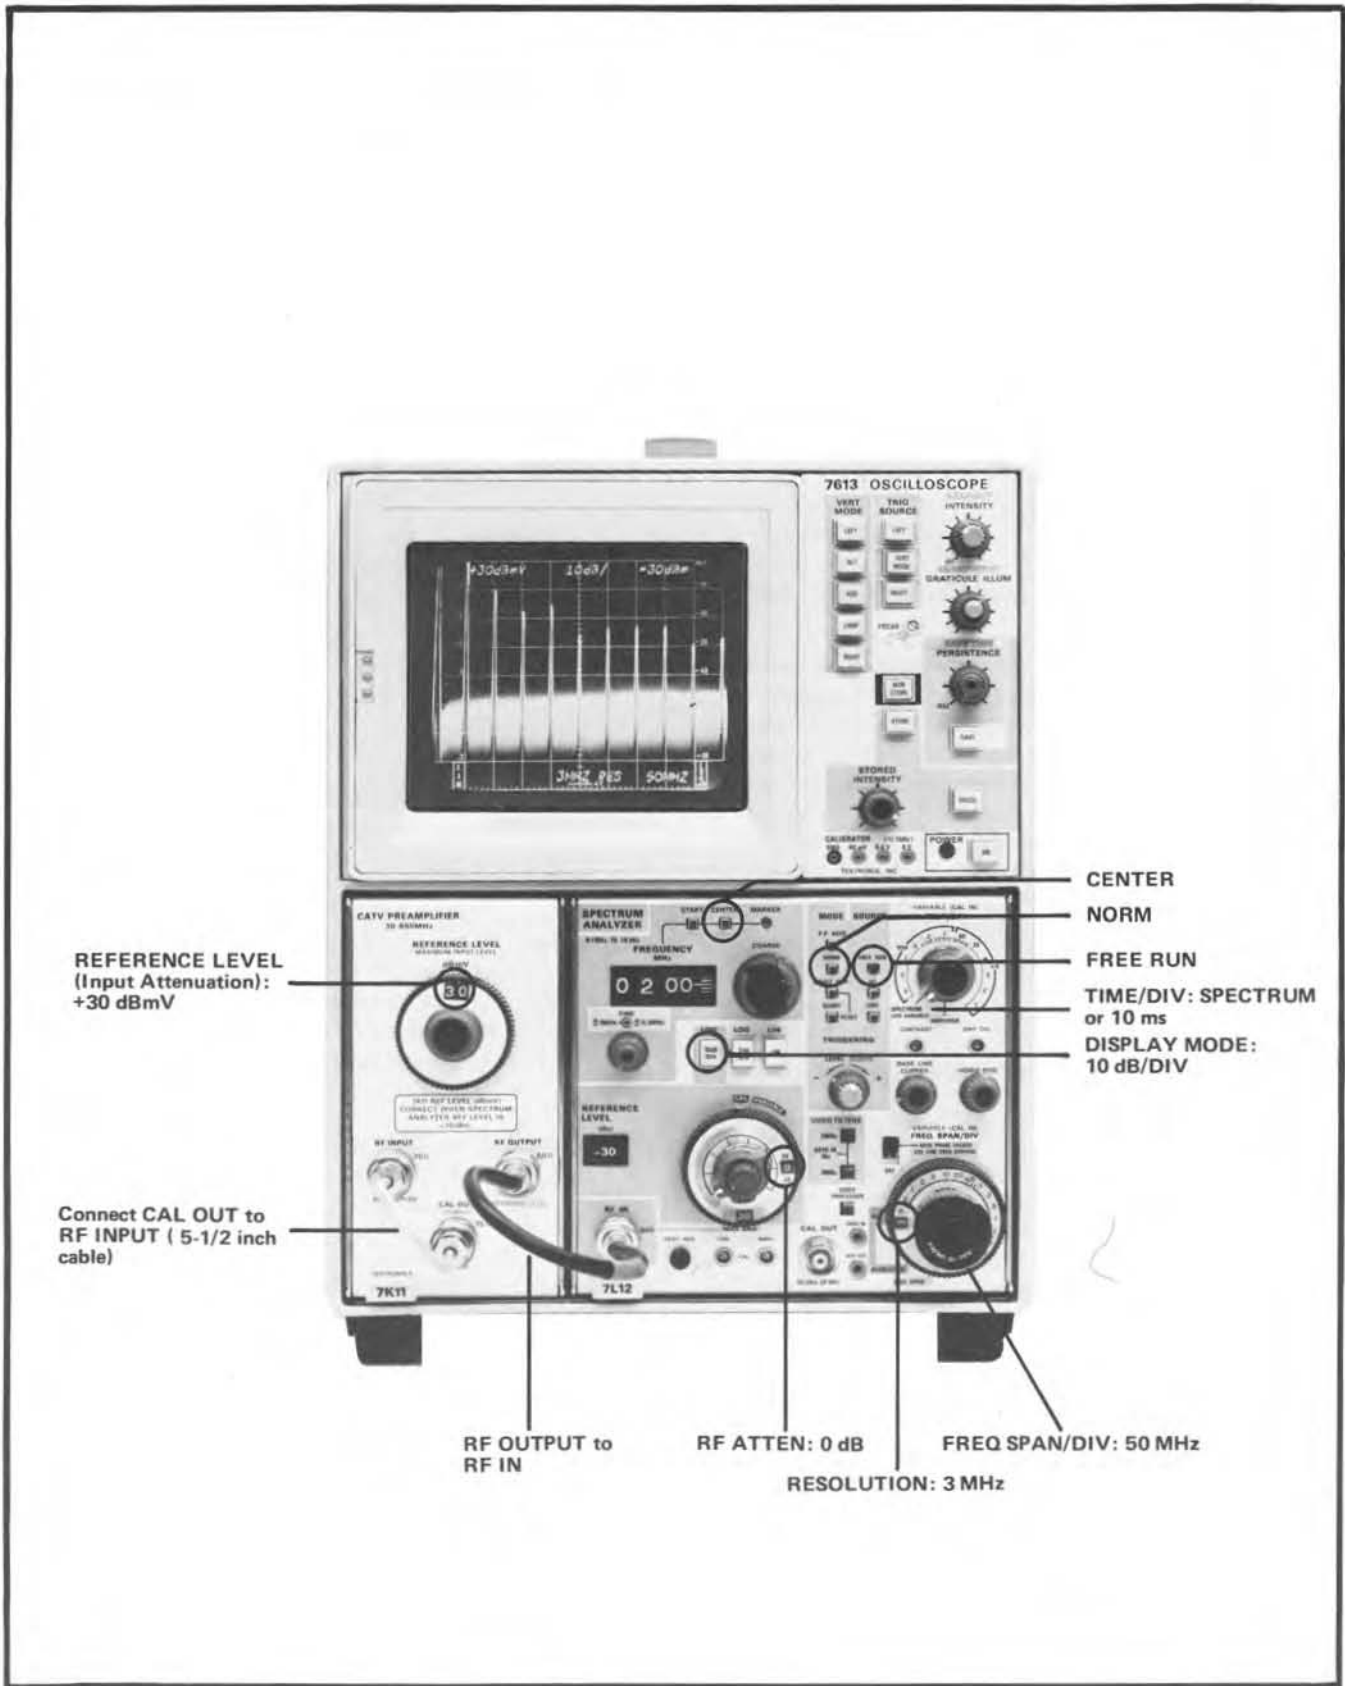

Fig. 2-1. Initial setup, showing control and selector positions.
- b. Connect the 7K11 and Spectrum Analyzer as shown in Fig. 2-1 and turn the power on.
g. Now depress the 10 dB/Div (LOG) display push-button on the analyzer. Display should now resemble that shown in Fig. 2-1.